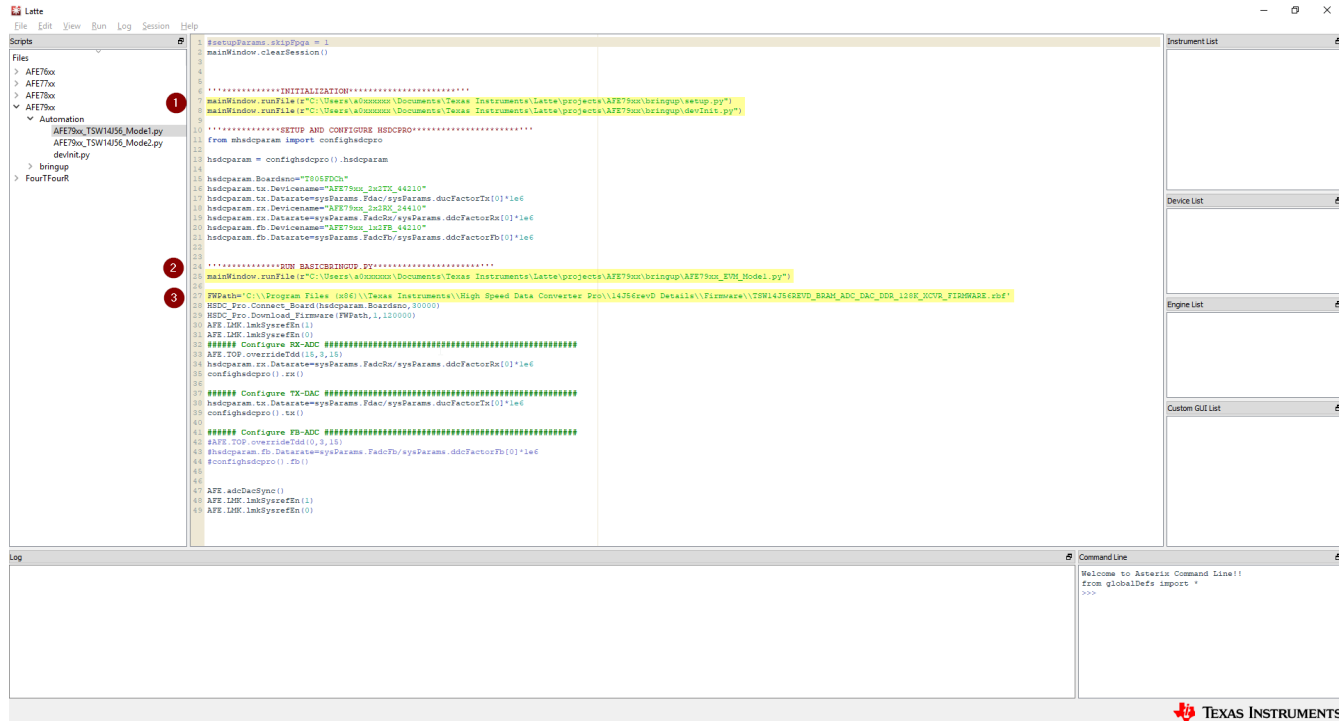

Figure 4-4. Directory Parameter to be Changed in the Automation Script
- Figure 4-4 shows where to change items 1 and 2 to reflect the location of the Latte install directory for the setup.py and devInit.py. Typically, the area where a0xxxxxx is replaced with the Windows user ID login.
- Figure 4-4 shows where to change item 3 to reflect the location of the *High-Speed Data Converter Pro* directory for the TSW14J56 firmware.